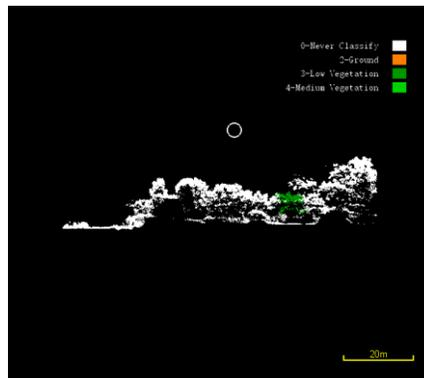

Figure 3-164 Classification of Brush
- (2) Close the Brush Classification dialog box, press the left mouse button anywhere in the profile view, then the mouse cursor will be changed to a circle consistent with the brush radius (Figure 3-164), press and hold the left mouse button, move the mouse and then lift the left mouse button.
- (3) At this time, the cursor circle swept through the point cloud data, all the initial category of point clouds belonging to the category of the target category will be set.